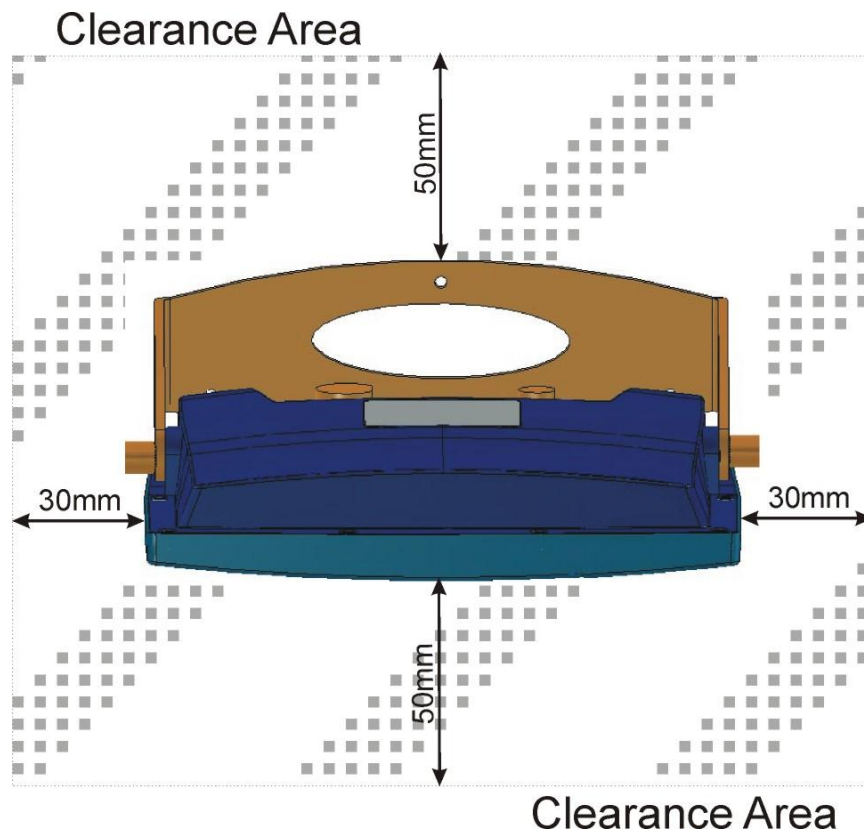

Figure 4-3: Gimbal mount clearance area
1. Determine where to install the R4 Display. The R4 Display can be mounted horizontally or vertically. Make sure there is enough space around the R4 Display, see Figure 4-3 below.